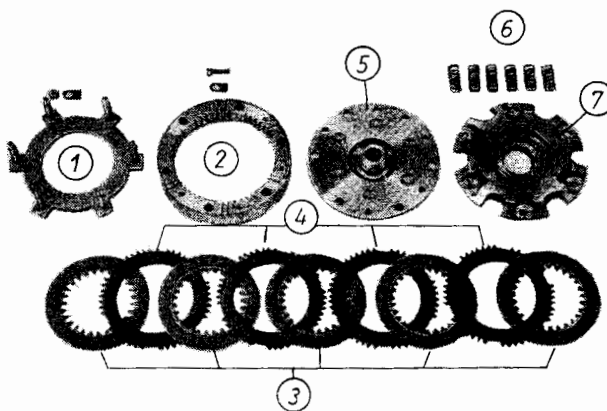

Fig. 72. Clutch, dismantled
Before assembling, re-tighten the spacing bolts at part (1). Assemble the clutch in the order of the numbers given in Fig. 72. The bolts of the 05-MV 150-2 clutch dissassembling device support the thrust ring (1).